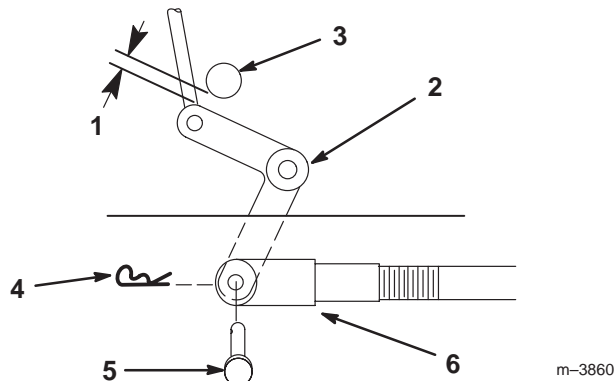
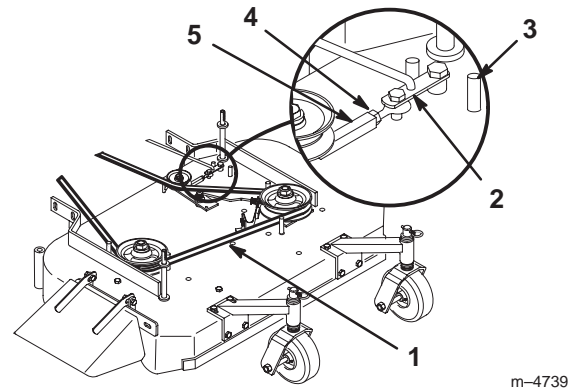

Figure 59
Figure 60
9. Check the clearance between the bell crank and the transmission output shaft (Fig. 59).
11. Rotate the clevis clockwise on the rod to increase the clearance; rotate it counterclockwise to decrease it (Fig. 59).
Note: If the assist arm does not contact the front stop on the mower deck (Fig. 60), adjust the clevis to bring the bell crank closer to the transmission output shaft (Fig. 59).
3. Loosen the locknut on the turnbuckle (Fig. 60).
4. Rotate the turnbuckle toward the rear of the mower to increase the tension on the belt. Rotate the turnbuckle toward the front of the mower to decrease the tension on the belt (Fig. 60).